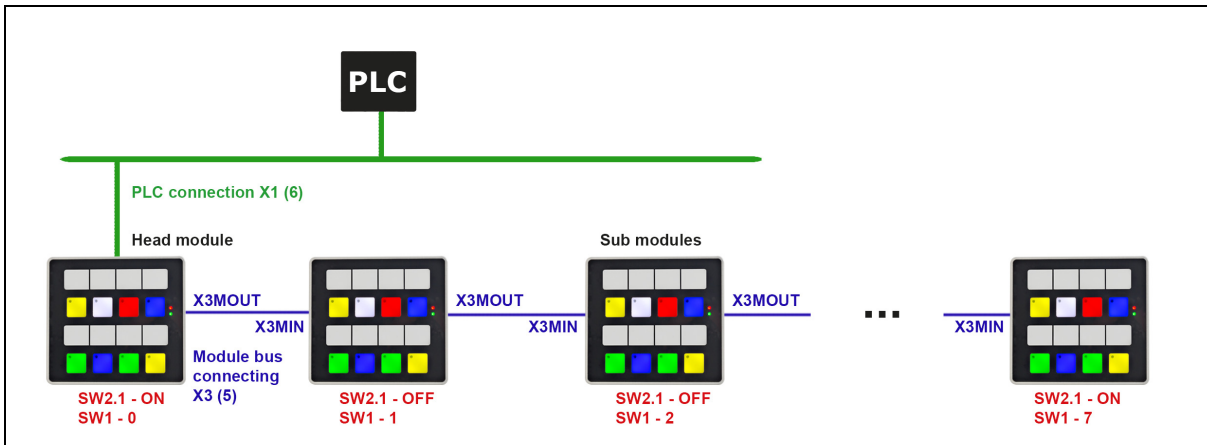

Fig. 4.5: Connection of the sub modules. The maximum cable length for the module bus is 9 m.
- SW2.1- ON: 120 Ω Bus termination (only set to "ON" on the head module and the last sub module. All other modules inbetween the bus set to "OFF" (see Fig. 4.5).
only valid for the head module and the last sub module (see Fig. 4.5)
sub modules 1 to 7 (see Fig. 4.5)
=> Connect the operation modules as sub modules for the local substructure to the module bus connection, as shown in Fig. 4.5.
=> Set the DIP-switch SW2.1 (3) according to Fig.4.5.
=> Set the coding switch SW1 (4) according to Fig.4.5.
As you can see in fig. 4.5, the head module is connected directly to the control